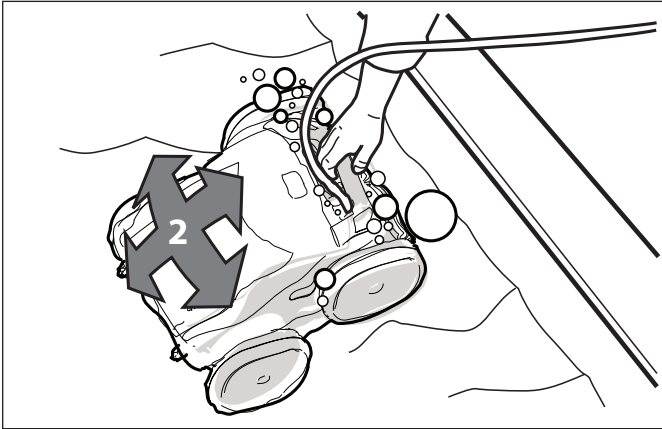

Figure 12. Cleaner Sinking to the Bottom of the Pool
3. Ensure the unit sinks to the bottom of the pool and does not float (Figure 12).